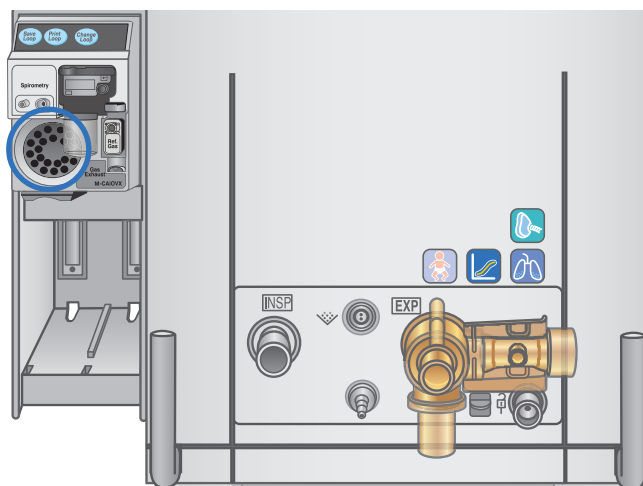

Figure 2.56 Gas Module Fan Filter
1. Attach the breathing circuit that will be used for ventilating the current patient. See figure 2.56 on page 2.58. Occlude the patient wye using the occlusion port.